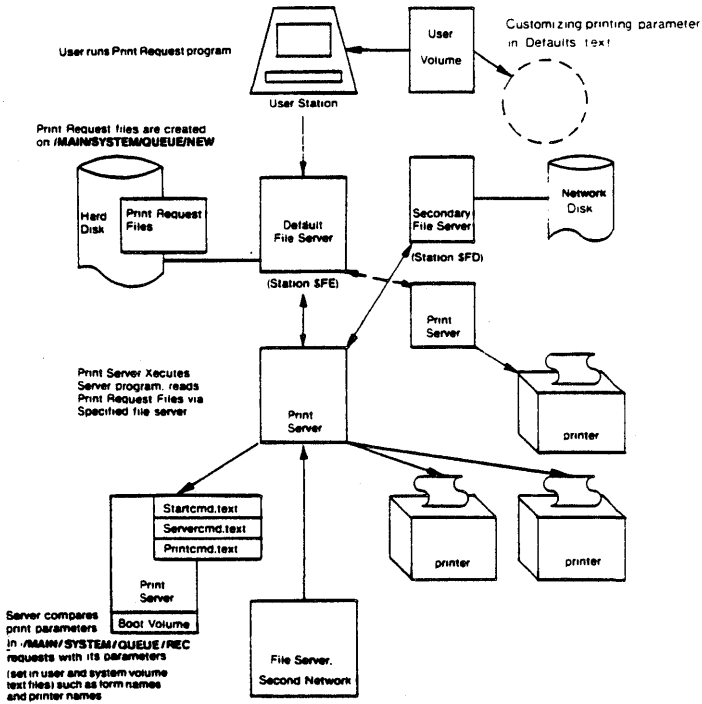

Figure 2
Print servers can access multiple file servers on one network and can be connected to more than one network at a time. The capacity of the dedicated server to support network and printer interface determines how many printers and network segments can be supported. An Apple // dedicated as a print server can support a combination of up to seven network interface and printer interface cards. For example, one Apple // can support four printers and serve three network segments. If many interface cards are installed in an Apple //, an external power supply and a cooling device may be required for reliable operation. Print Server Subsystem operation is illustrated in Figures 2 and 3.
1. Users execute a print request from their operating system environments (Figure 2). The PRINT programs create network files that are listed in the network directory